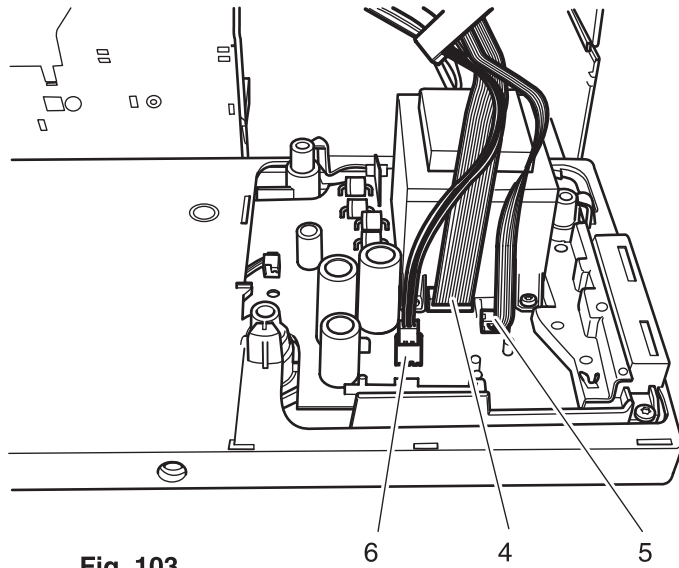

Fig. 103
- Tilt the base to the front and remove three connection plugs 4, 5 and 6 (fig. 103).
- Mount three connection plugs 4, 5 and 6 onto the circuit board of the base plate (fig. 103).